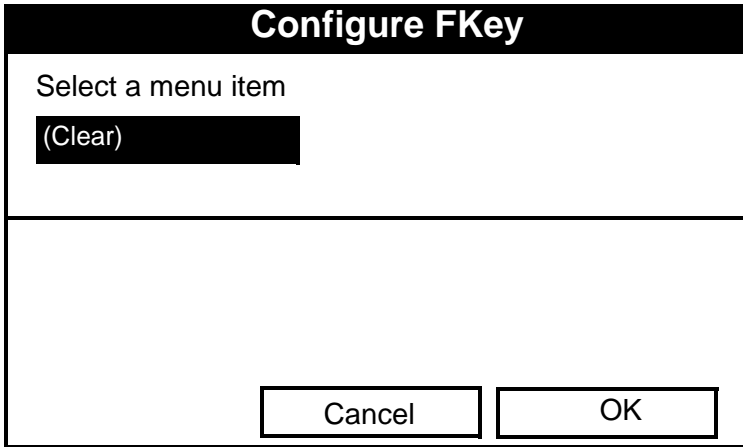

Figure 64: Configure FKey Window
- Use the [▼] or [▲] arrow keys to move to the desired FKey (1, 2 or 3) entry on the menu. Press [ENTER]. The Configure FKey window opens, as shown in Figure 64 on page 100.